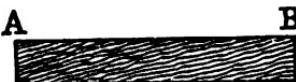

FIG. 23.
*The grain.*—Timber must be planed with the grain. If the grain runs all along parallel with the surface, there is no choice, and the plane may be run either way. But if the grain run obliquely, as in Fig. 23, the plane must run from A to B, not the reverse. If the grain be in different directions at the two ends, one